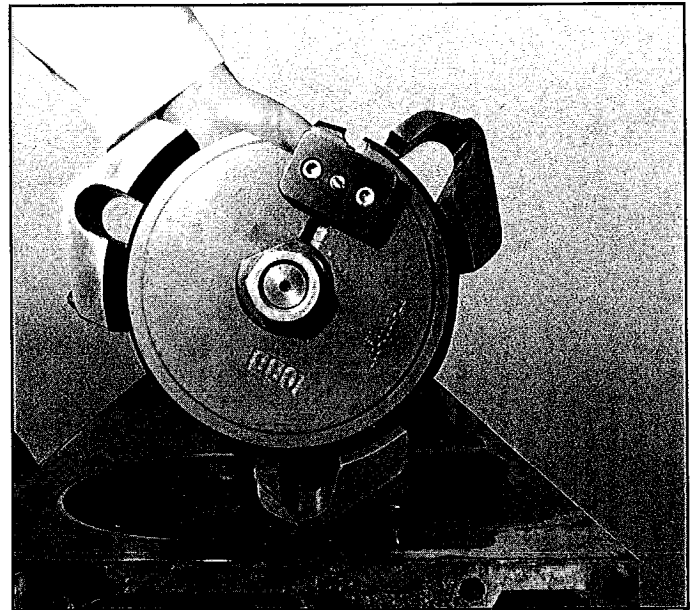

Figure 3
1. Select proper cutter plate, install plate on shaft of Porta-Matic and secure with nut and washer. (Figure 3)